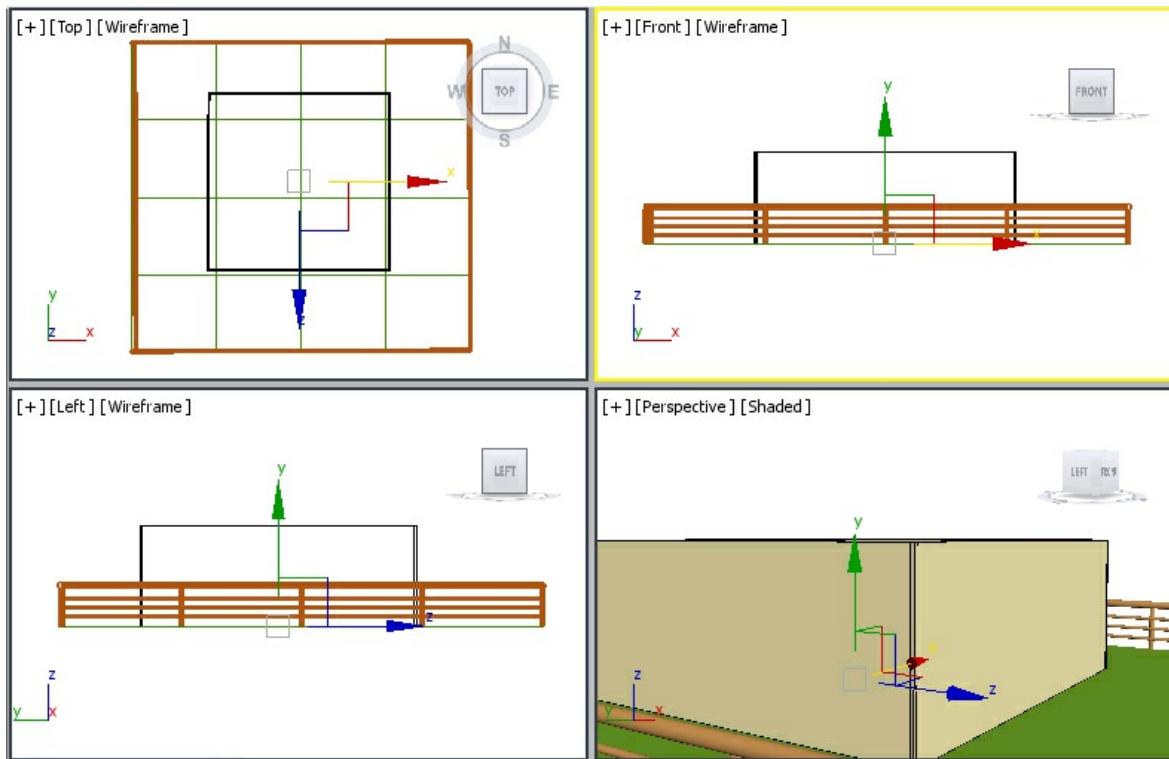

Figure 4-75 The wall geometry displayed in viewports
right angle of the first segment. Repeat the same procedure to create a wall of rectangular shape, refer to Figure 4-75. Now, click on the starting point of the first wall segment; the **Weld Point?** message box is displayed. Choose the **Yes** button to weld the end points of the wall. Next, right-click to end the creation of the wall.
6. Choose the **Select and Move** tool and align *wall* in viewports, as shown in Figure 4-75.